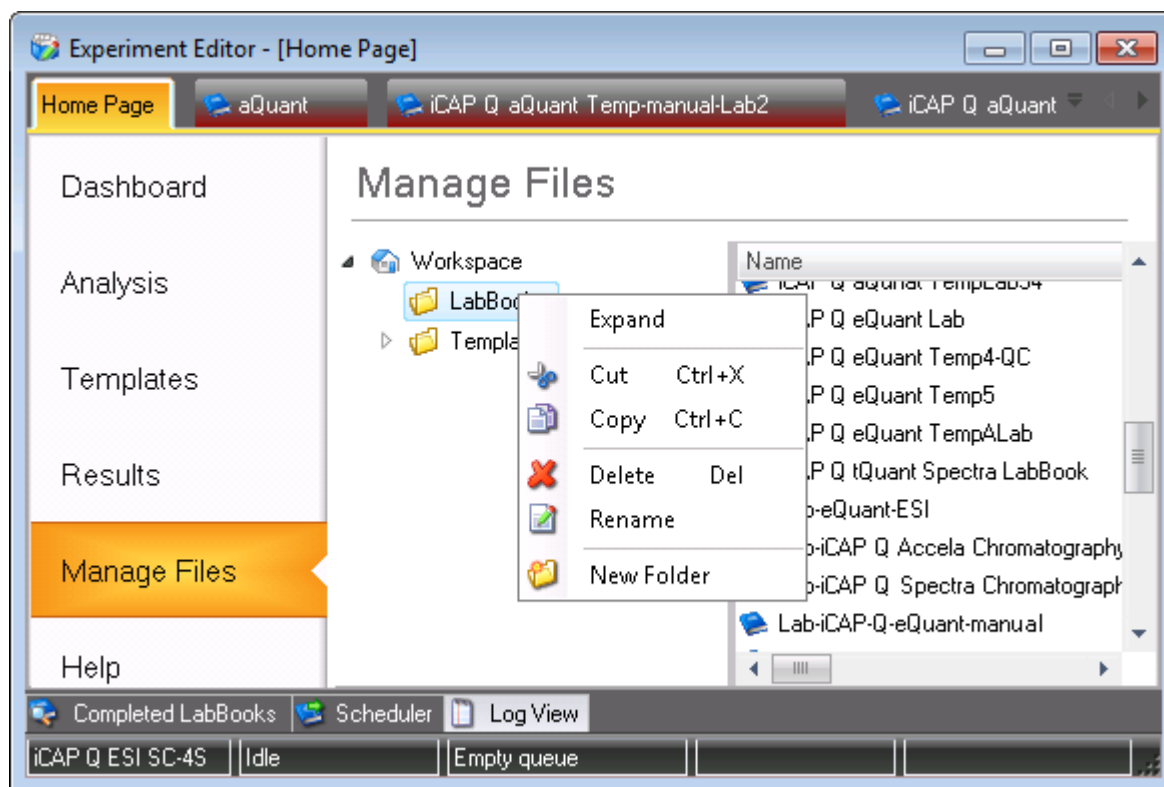

Figure 5-35. Context menu Manage Files subfolder
3. Right-click the **LabBooks** or **Templates** folder to create a new folder, see Figure 5-35.